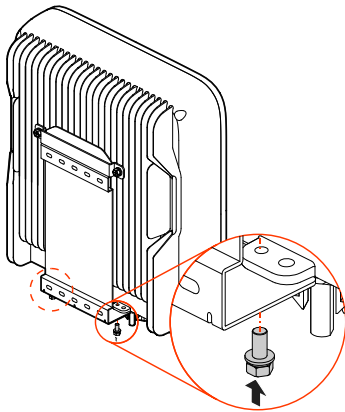
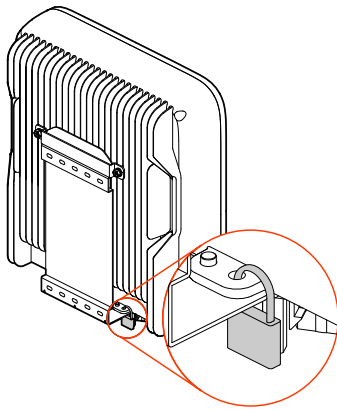

Figure3-12 Fasten the inverter
Figure3-13 Position of lock (the lock customer provided)
Step 6 Fasten the inverter to the installation holder by 2 stainless steel combination bolt M5*12 (as shown in Figure3-12), and then lock it. The lock position is as shown in Figure3-13.